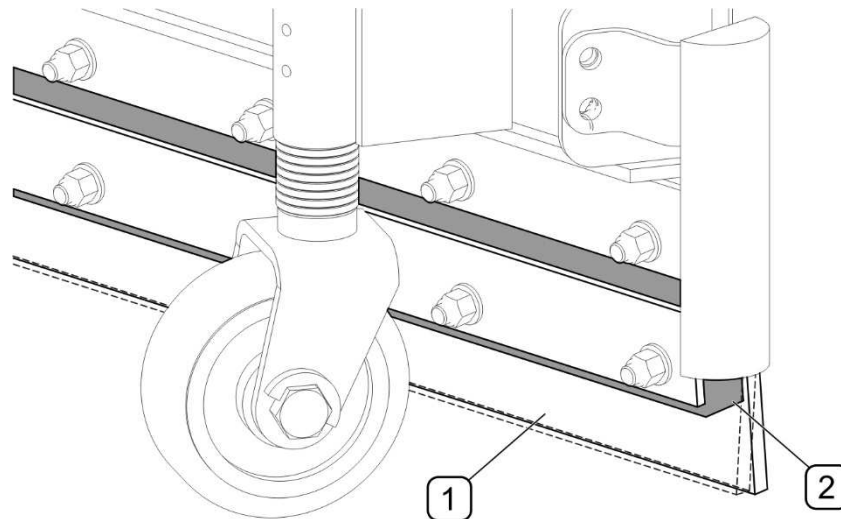

FIGURE 4.7 Shock absorption of steel collecting strips
(1) - wheel; (2) - pin; (3) - washer
Optionally, PUV-1400 snowplough can be equipped with steel blades. Shock absorption of steel collecting strips (1) is performed by means of polyurethane shock absorber (2), which is able to swing backwards when an obstacle is encountered (FIGURE 4.7).